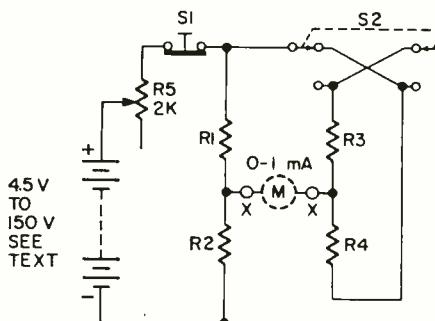

Fig. 1
Fig. 1 shows a simple bridge consisting of R1, R2, R3 and R4. Resistors R3 and R4 can be interchanged (by S2) so current unbalance can be compared. Switch S2 may consist of a toggle, knife or momentary d.p.d.t. switch. S1 may be a toggle or normally closed push-button switch. The meter is an old 0-1-mA, 50-ohm movement in a vom. Any similar meter is suitable. The meter (M) is connected (as shown in dashed lines) across points X-X when checking resistors up to 100 ohms or so.
The simplest element is the inverter. Its symbol and truth table are in Fig. 1-a.
Returning to the truth table in Fig. 1-a, we find that a 0 appears on the output of an inverter when its input is 1 and vice versa.
The operation of the NOR gates is explained in Fig. 1-b. If either or both inputs are 1, the output is 0.
When an AND or OR function is needed, it can be produced as shown in Figs. 1-c and 1-d.